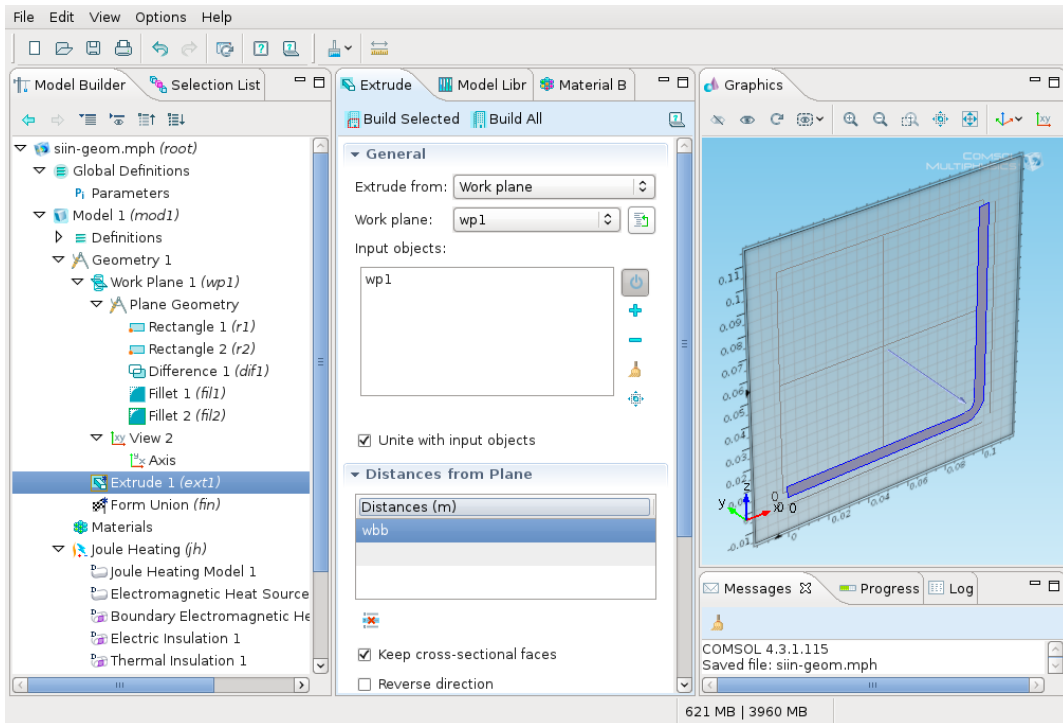

Figure 19: Extruding the work plane.
- enter the value  **$wbb$**  into the *Distances from Plane* table replacing the default value to extrude the profile to its thickness (Fig. 19).